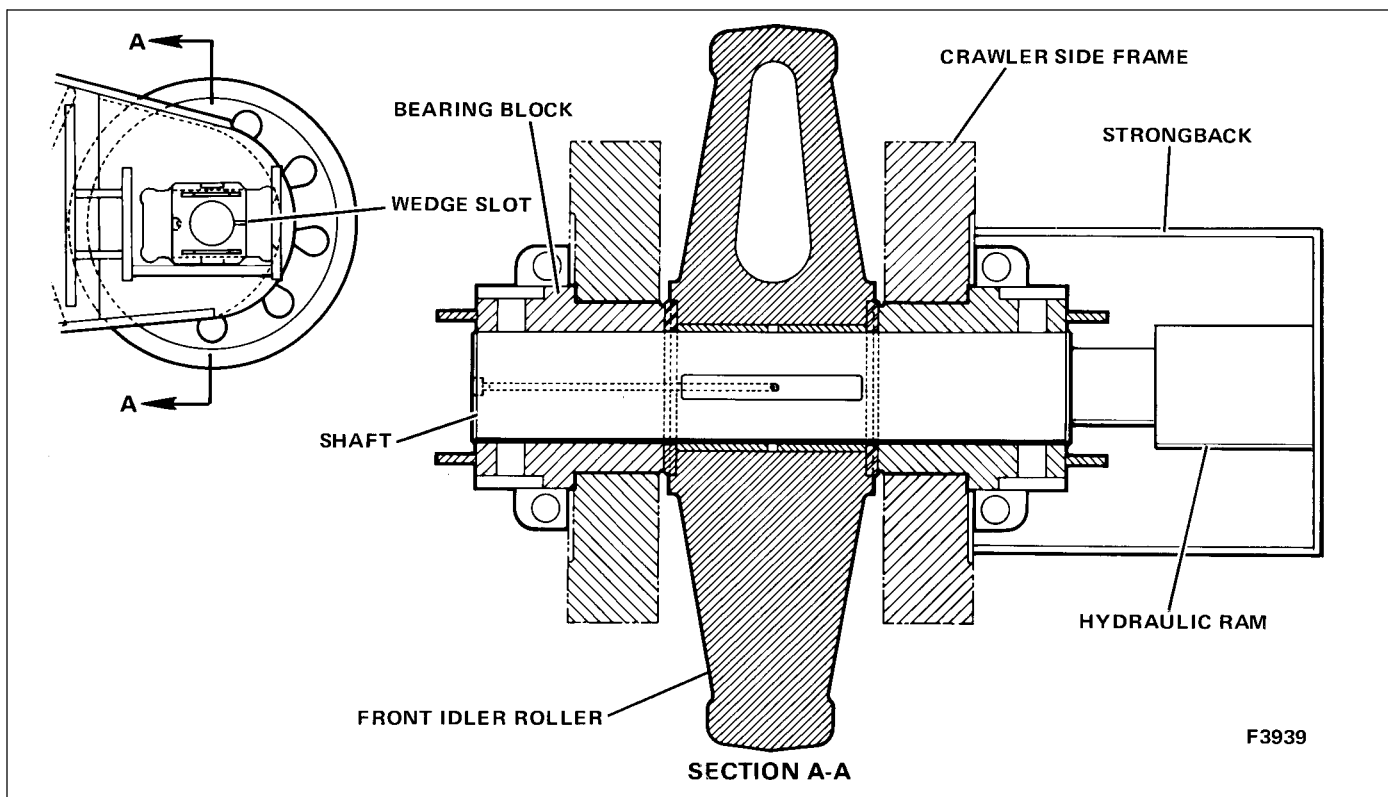

Figure 7-36. Front Idler Shaft Removal
7. Fabricate a strongback similar to that shown in Figure 7-36 and weld it to the crawler frame. See section 9 for welding procedures.